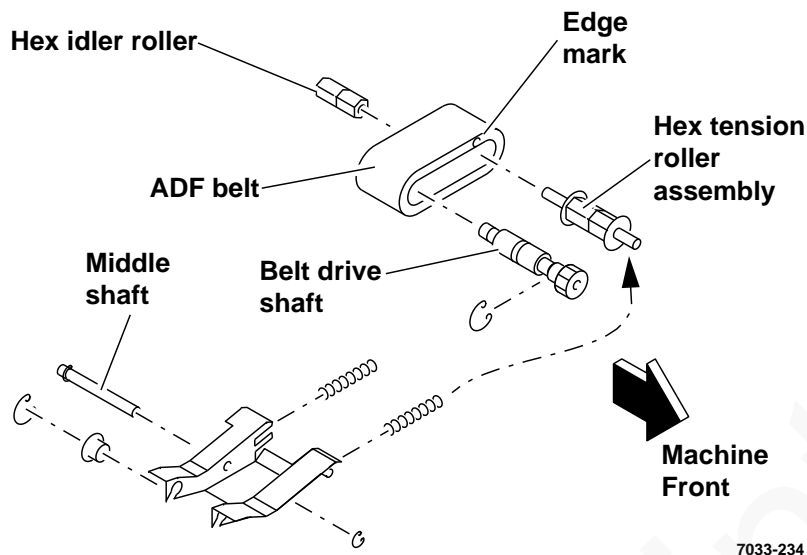

Figure 7. ADF belt removal
- b. Remove one of the E-rings from the middle shaft and hex idler roller (Figure 7), and slide the shaft out of the cartridge.
- c. Remove the two E-rings (Figure 7) from the belt drive shaft.
- e. Carefully pull the belt drive shaft out away from, and up over the top of, the housing (Figure 7).